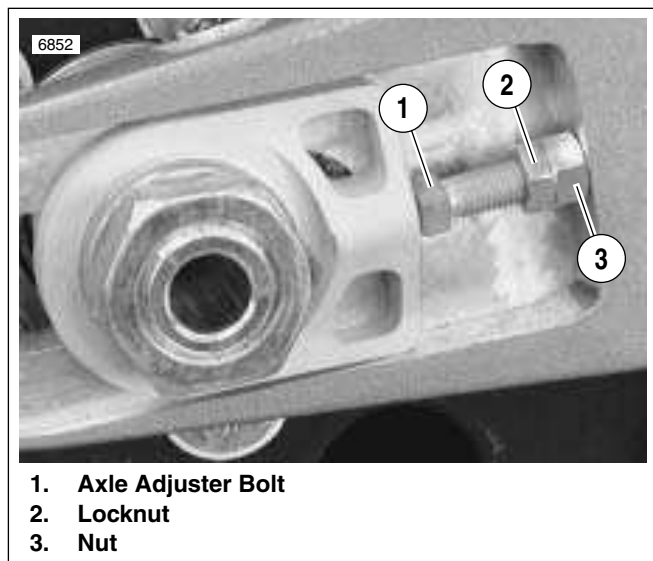

Figure 2-81. Axle Adjuster Bolt, Right Side Shown
17. See Figure 2-81. Tighten locknut (2) flush against nut (3). Tighten axle nut (metric) to 66-73 ft-lbs (90-99 Nm). Verify that belt deflection is correct. Lower motorcycle onto lift.